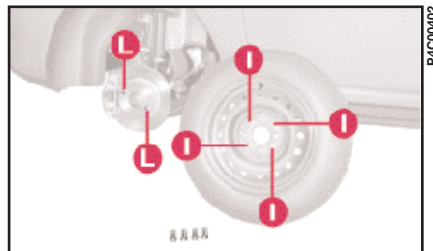

fig. 4
10) Ensure that the support surfaces of the spare wheel are clean and free from impurities which could successively cause the wheel bolts to loosen. Mount the spare wheel so that the holes **I** (fig. 4) coincide with the relative pins **L**.